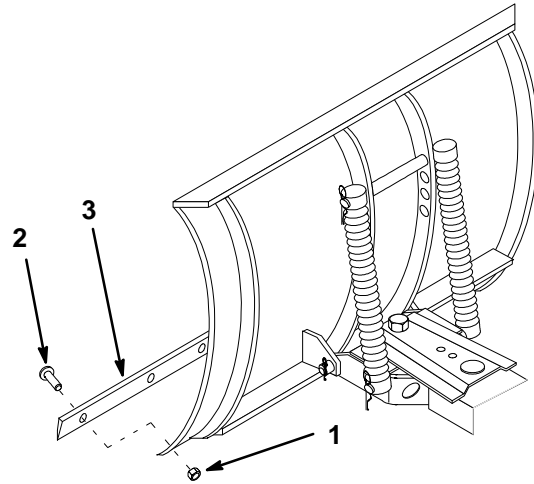

Figure 18
3. Remove the lock nuts and carriage bolts to remove the scraper blade (Fig. 18).
4. Reverse the scraper blade to replace a worn edge and install it with the previously removed hardware (Fig. 18).